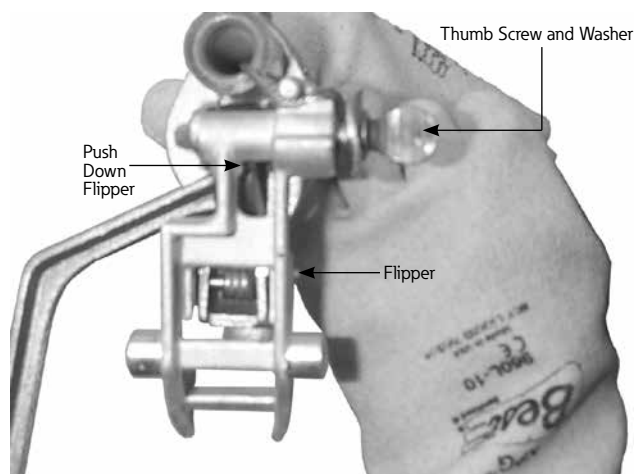

Figure 9. Replacing the fuse link.
- Press flipper downward on the lower tube casting. Hold in this position for Step 4. See Figure 9.